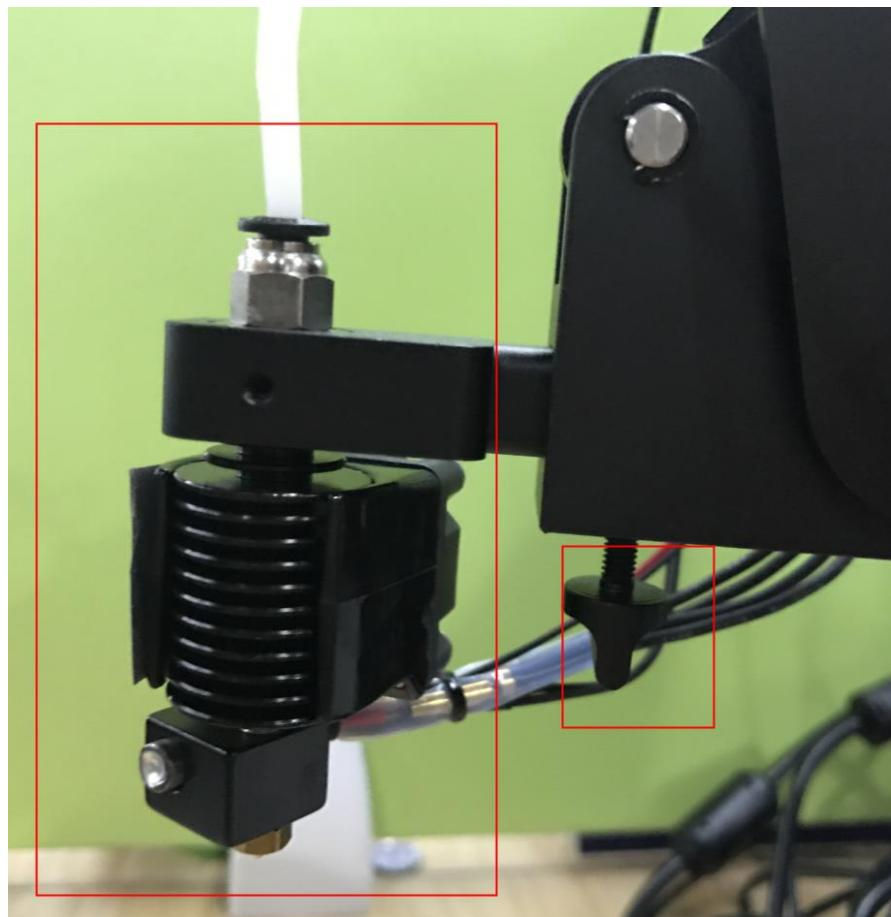

Figure 5.122 Fix hot end
**Step 4** Fix the hot end on the Dobot Magician with clamp fixing screw, as shown in Figure 5.122.